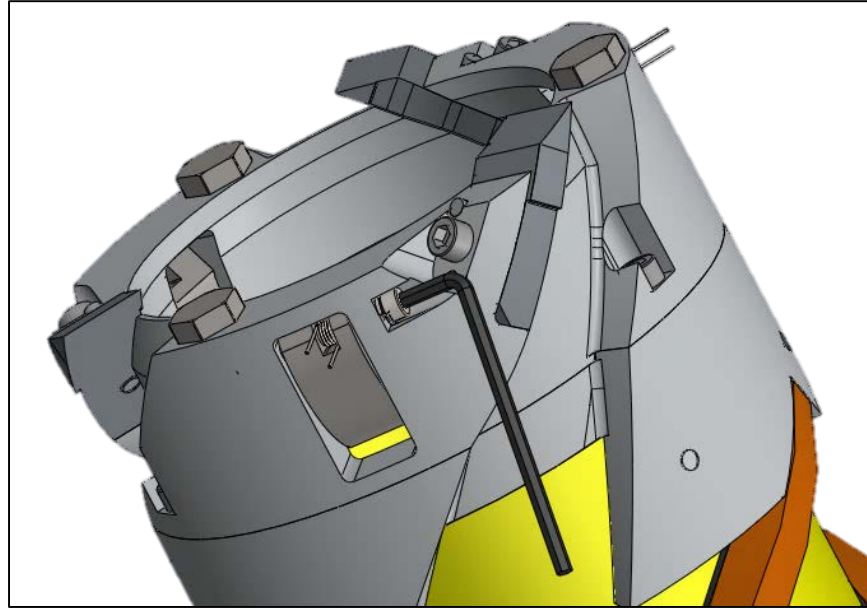

Figure 7: Removing the Core Dogs
7.3.1 Removing core dogs (Figure 7):